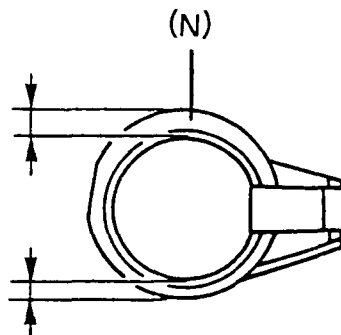

FIGURE 4-8 Cable Guide
- (2) Position the cable guide so that thicker part (N) comes to the upper side as shown in the figure 4-8.